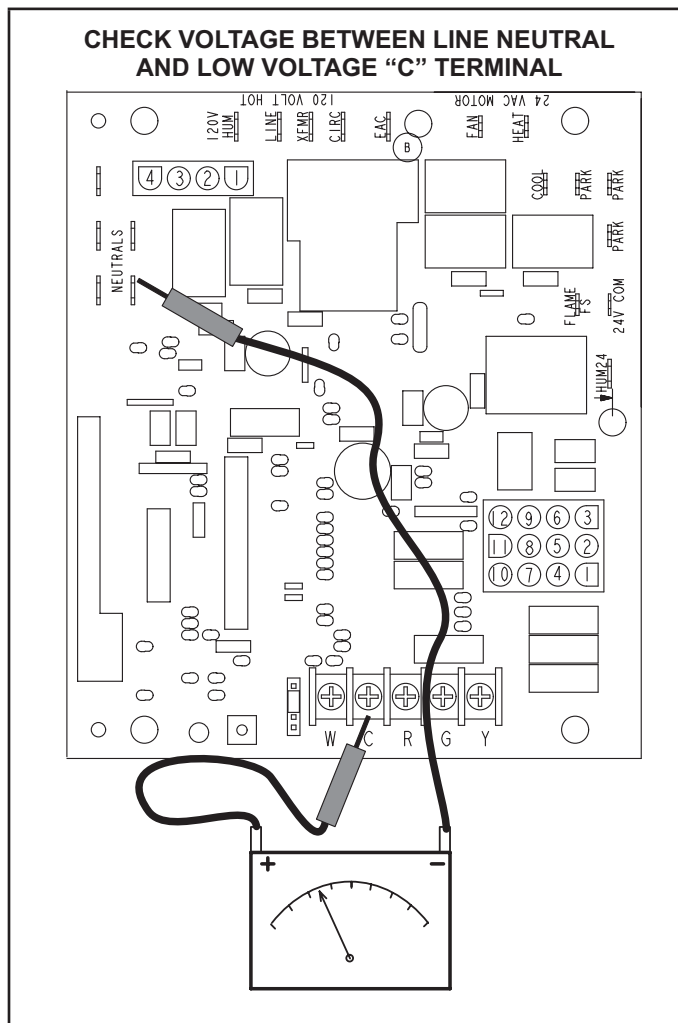

FIGURE 21
- 1 - Measure the AC voltage between Line Neutral (spade terminals) and "C" terminal (low voltage terminal block) on the integrated control. See figure 21. A wide variation in the voltage between Line Neutral and "C" as a function of load indicates a poor or partial ground. Compare the readings to the table below. If the readings exceed the maximum shown in table 14, make repairs before operating the furnace.
NOTE - Figures 21 and 22 are typical ignition control illustrations.